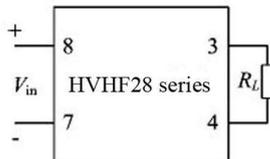
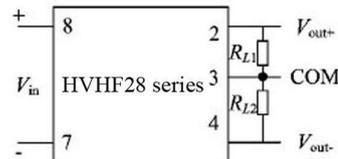

Fig. 7 Connection diagram for single output operation
Fig.8 Connection diagram for dual output operation
(1) Connection diagram for operation (Fig.7, Fig.8)